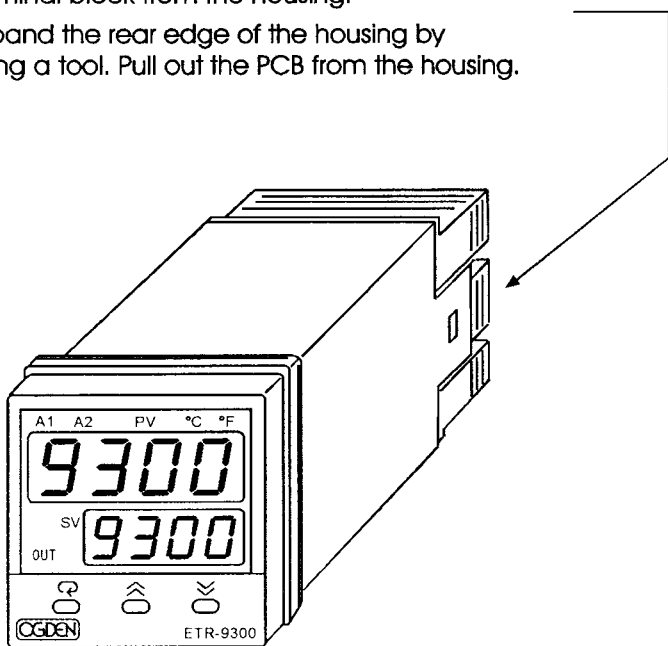

Figure 7.1
- (3) If the points listed on the above chart have been checked and the controller does not function properly, it is suggested that the Instrument be returned to the factory for inspection. Do not attempt to make repairs. It usually creates costly damage. Also, it is advisable to use adequate packing materials to prevent damage in shipment.
- (4) Dismantle the controller according to **Figure 7.1** .